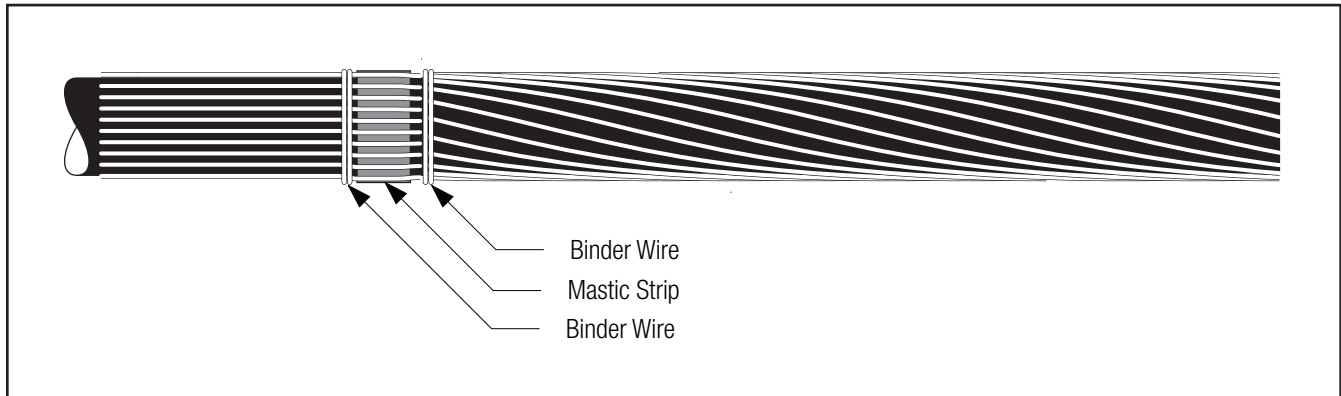

Figure 7
- 2.3.3 Place a strip of mastic around cable semi-con next to neutral binder. Fold neutrals into mastic and place another binder wire on the other side of the mastic (*Figure 7*).